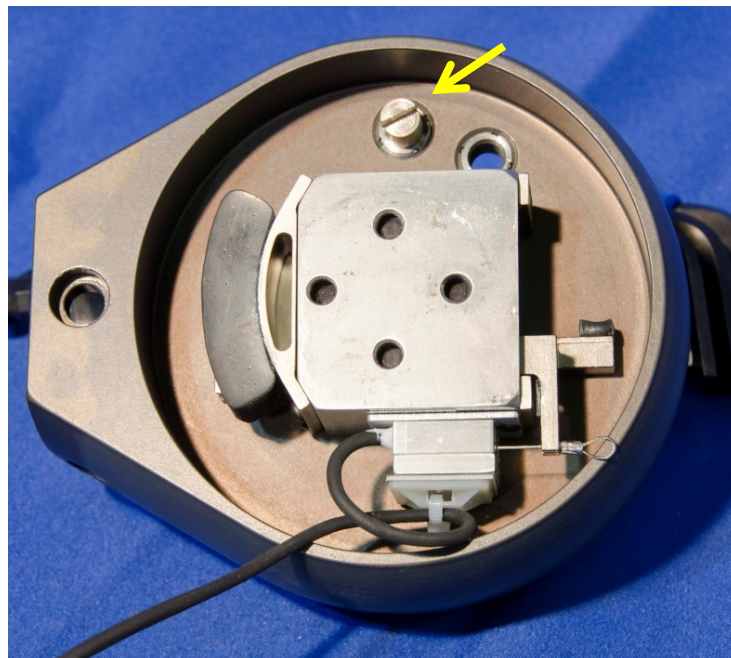

Figure 11-18. Install knee stop pin
11.2.2.11 Install the Knee Stop Pin (472-5763) into the rear hole in the Left Knee Cap Assembly (472-5300). The pin should protrude out on the same side as the inboard knee slider (Figure 11-18).